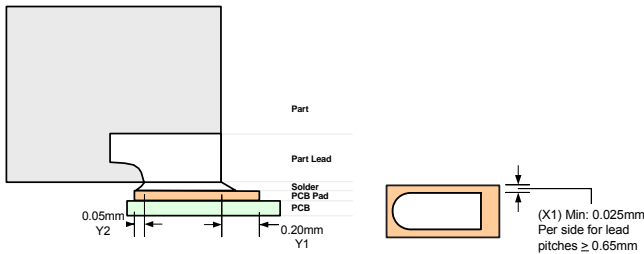

Figure 5 – PC Board Land Pattern Geometry for MLP Terminals
As a general rule, the PCB lead finger pad (Y) should be designed 0.2-0.5mm longer than the package terminal length for good filletting. The pad length should extended 0.05mm towards the centerline of the package. The pad width (X) should be a minimum 0.05mm wider than the package terminal width (0.025mm per side), refer to figure 5. However, the pad width is reduced to the width of the component terminal for lead pitches below 0.65mm. This is done to minimize the risk of solder bridging.